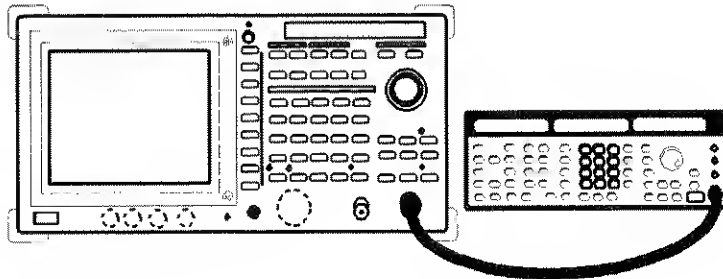

Figure 2-124 Setup for Measuring the Harmonic Distortion
1. Connect the unit under test as shown in Figure 2-124.